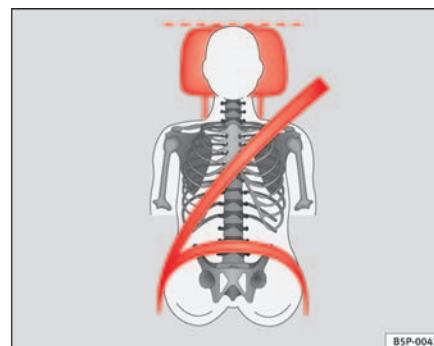

Fig. 12 Correct belt web and head restraint positions, viewed from front
- The shoulder part of the seat belt must lie on the centre of the shoulder, never across the neck. The seat belt must lie flat and snugly on the torso ⇒ page 23, fig. 12.